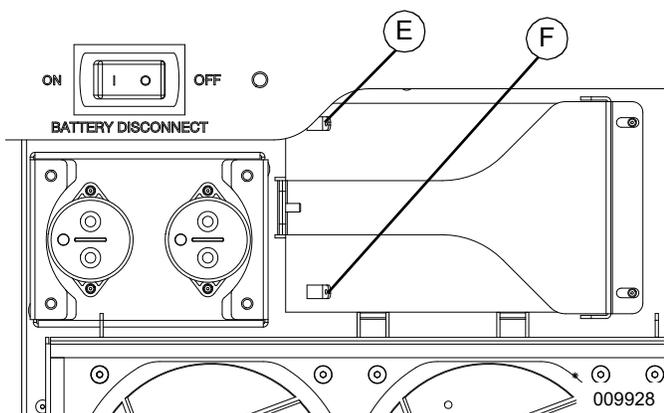

Figure 4-10. Blackstart Battery Connections
See Figure 4-10. Connect blackstart battery lead to battery terminal (E).